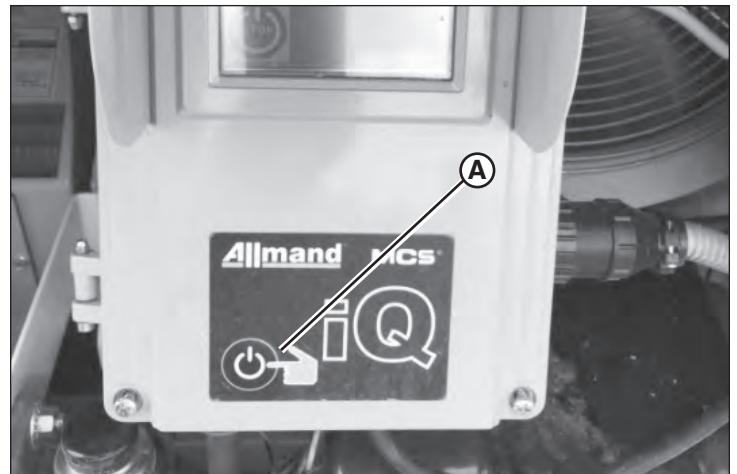

Figure 30
1. Press and hold START / STOP on the control module (A, Figure 30).